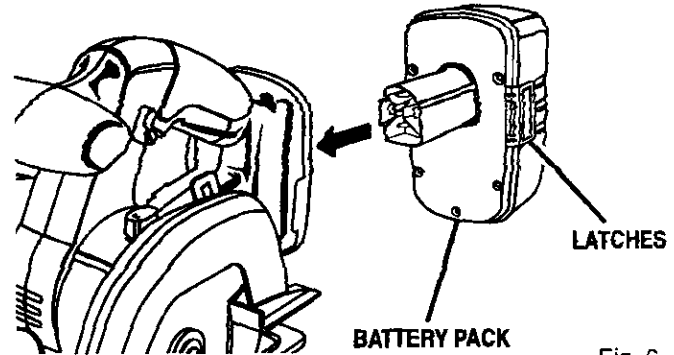

Fig. 6
See Figure 6.
- Place battery pack in your saw. Align raised rib on battery pack with groove inside saw, then slide battery pack in saw as shown in figure 6.